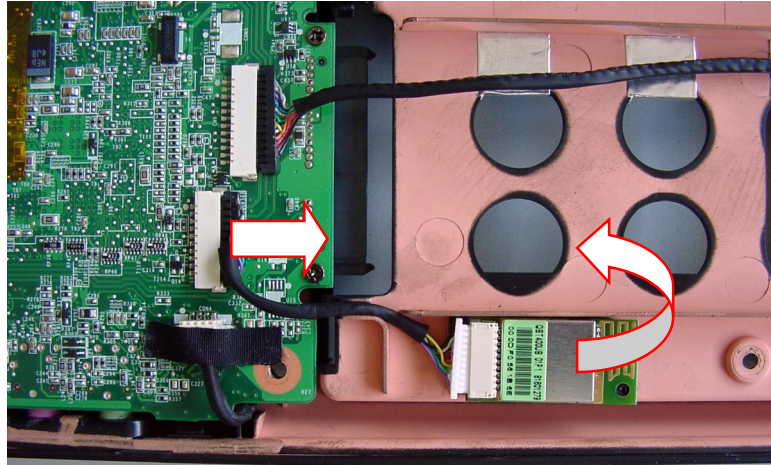

Fig. 29 Location of bluetooth module.
2. The Bluetooth module has been glued onto the casing. Carefully remove the Bluetooth module from the casing (see Fig. 29).